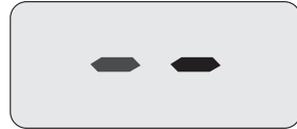
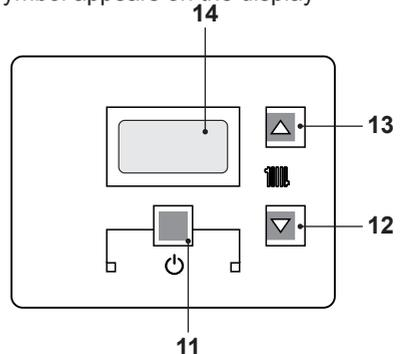

Fig. 7.7
Fig. 7.8
- Electrically power the boiler by switching on the double pole isolation switch. The LCD will display, the  symbol (Fig. 7.7).
- Press the 11 key for 2 seconds until  symbol appears on the display Fig. 7.8.
- Switch off the boiler by pressing the 11 (Fig. 7.8) key for 2 seconds until the  symbol appears on the LCD display (Fig. 7.7).
Press the reset key on the boiler control panel 11 (Fig. 7.8) to reset its functioning.